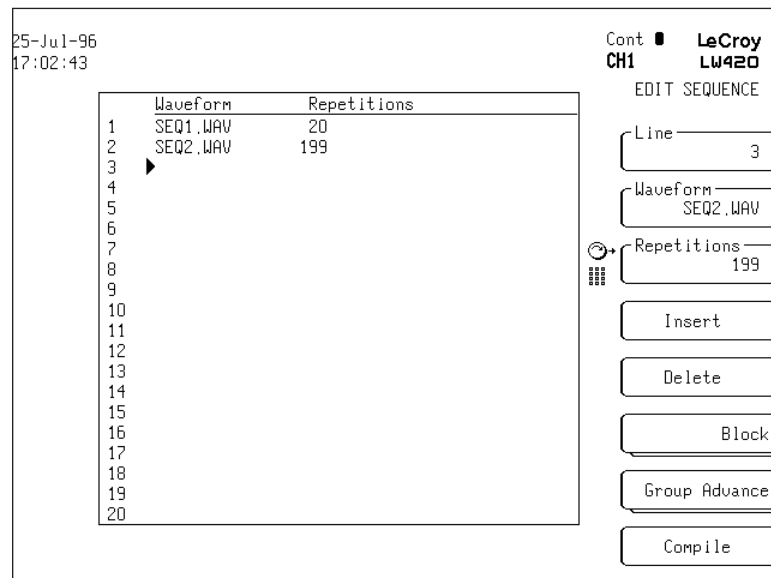

Figure 7.5
- Continue to Line 2 and select the waveform SEQ2 with 199 repetitions as shown in figure 7.5. Press Insert to add this to the sequence file. This sequence file will generate a burst of 20 SEQ1 waveform repetitions followed by SEQ2 repeated 199 times.